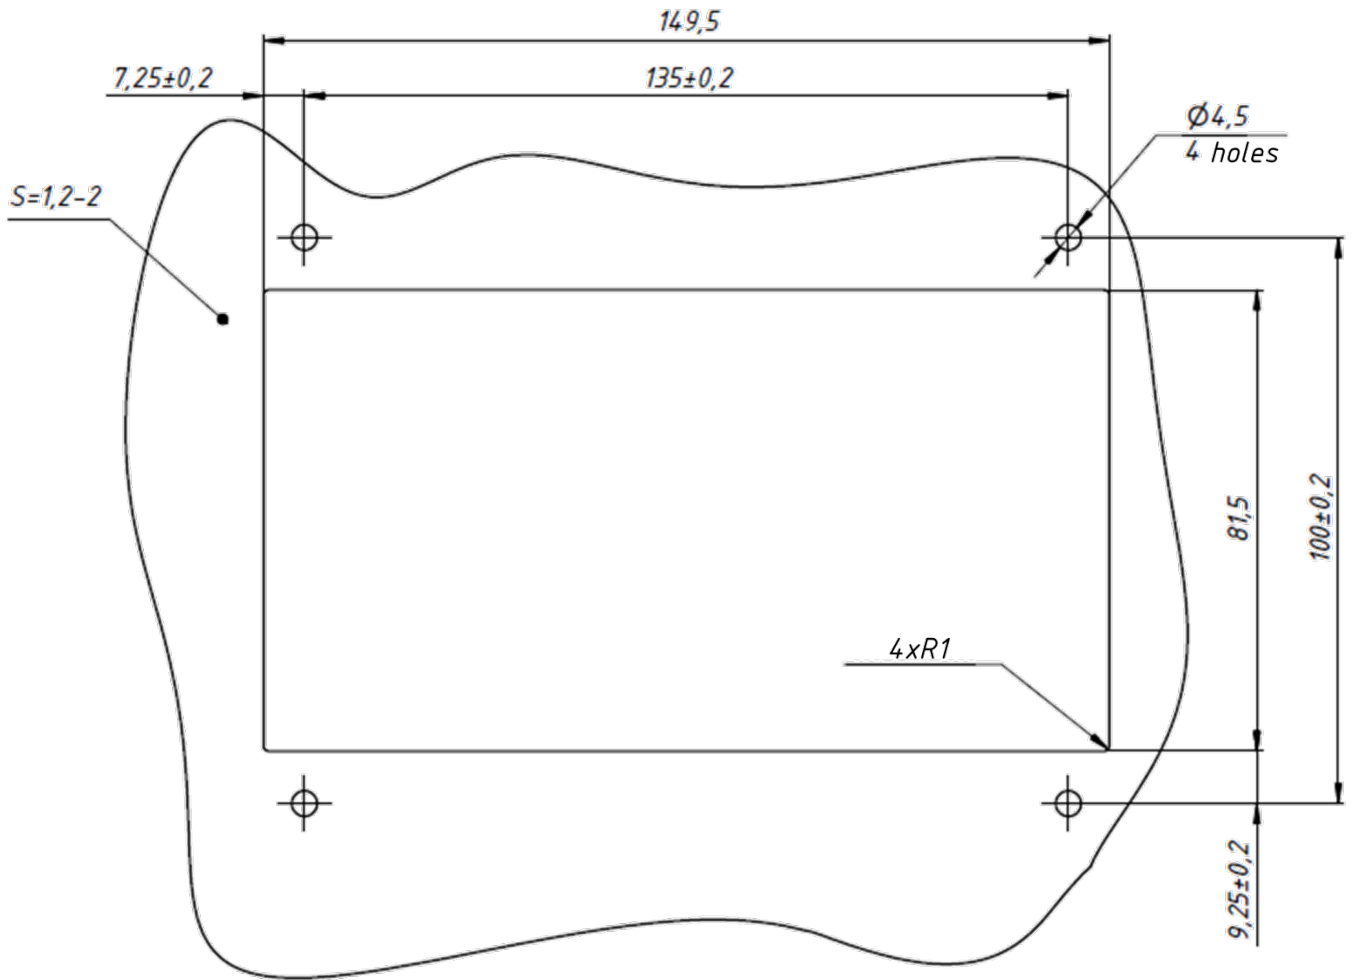

Figure 2.2 The drawing of installation site PROEL-MINI-02
- 2.2.4.1. Prepare the installation point according to the drawing in Fig.2.2;